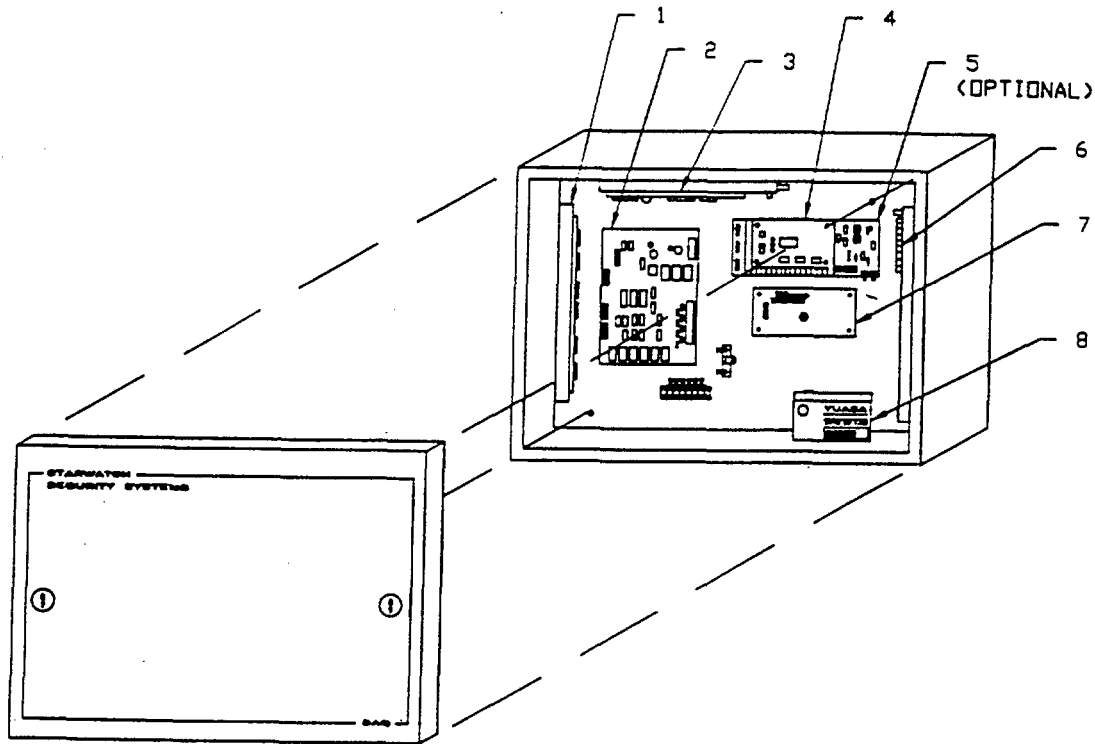

Figure 1-7. Remote Area Data Collector Components, Interior 12 vdc
**(3) Remote Status Monitor (RSM) Central Processing Unit (CPU) (Item No. 3).** Consists of:
**(4) Monitor (Item No. 4).** The monitor is a 12 inch monochrome display with green characters on a dark background. It tilts from 15 to 45 degrees and swivels.
**(5) Keyboard (Item No. 5 and 11).** The keyboard is the international 112 key configuration. Layout of the keys is the U.S. standard "QWERTY" format, with dedicated function keys, programmable function keys, cursor control keys, and a numeric pad.
**(6) Power Supply Module (Item No. 6 and 12).** Translates line ac to 35 vdc, which is distributed to each component in the system. The input voltage is 120/240 vac selectable.
**(7) Uninterruptible Power Supply (UPS) (Item No. 7).** The Uninterruptible Power Supply (UPS) provides computer grade, no break power during power outages.
**(8) Operator Workstation with Central Processing Unit (CPU) (Item No. 8).** A compact, modularized information processing system. The Workstation is connected to the PMC CPU.
**(9) Color Monitor (Item No. 9).** The monitor is a 14 inch high resolution color display featuring a tilt swivel base and a non-glare, high contrast screen.
**c. Remote Area Data Collector (RADC) Components (Interior) (+12 V) (see Figure 1-7)**
**(1) Termination Card (Item 1).** A PWA that can interface 12 additional devices to the Leda PWA.
**(2) STARGATE 5000 (Item 2).** The PWA contains the programs to monitor the status of optional devices and process and forward this information to the PMC. The STARGATE 5000 PWA is used in the Interior RADC. The RADC can monitor and test up to 20 sensors.
**(3) Leda (Item 3).** A PWA used to connect up to twelve additional sensors via the termination PWA to the RADC via the AUX 0 port. The Leda operates from 12 vdc provided from the STARGATE 5000 or 1000 board or via the keypad IAU.
**(4) Mod2-II Modem (Item 4) or Fiber Optic Cable (Optional) (Item 5).** The communications network between the RADC and the PMC.
**(5) Audio Assessment Controller (item 6).** A plug in module used to switch between intercom and audio assessment at the RADC.
**(6) Data Encryption System (Item 7) (optional unit).** Provides secure data communications (encryption) for specified PMC, RSM, and RADC communications links.
**(7) Battery, 12 vdc, 7 amp hr. (Item 8).** Consists of a lead acid maintenance free battery. The battery provides for 6 hours of system backup and takes 12 hours to be fully recharged once the battery has been completely drained.